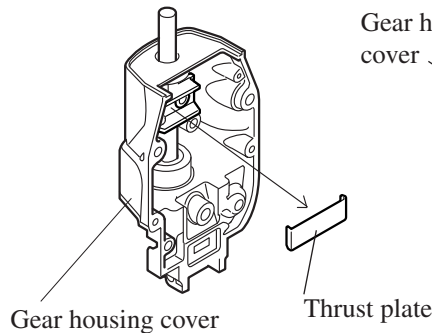
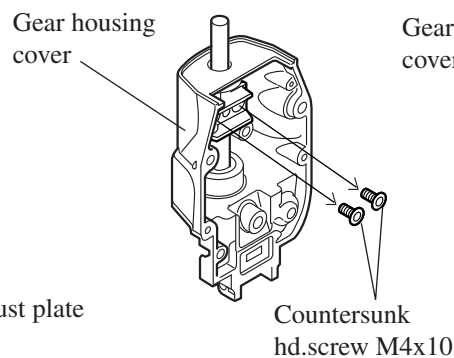
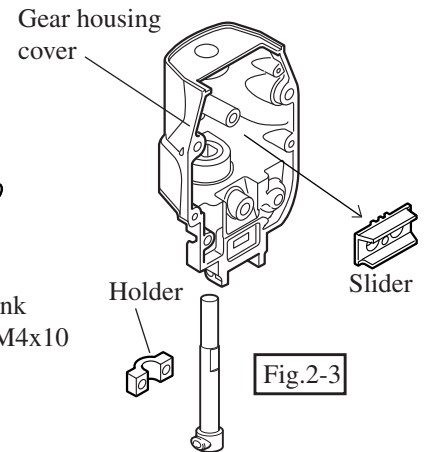

Fig.2-1
Fig.2-2
Fig.2-3
1. Remove thrust plate from slider. (See Fig.2-1.) And then, remove slider by unscrewing countersunk hd.screw M4x10 with a straight T20 torx bit. (See Fig.2-2.) So, rod can be removed from gear housing cover. (See Fig.2-3.)